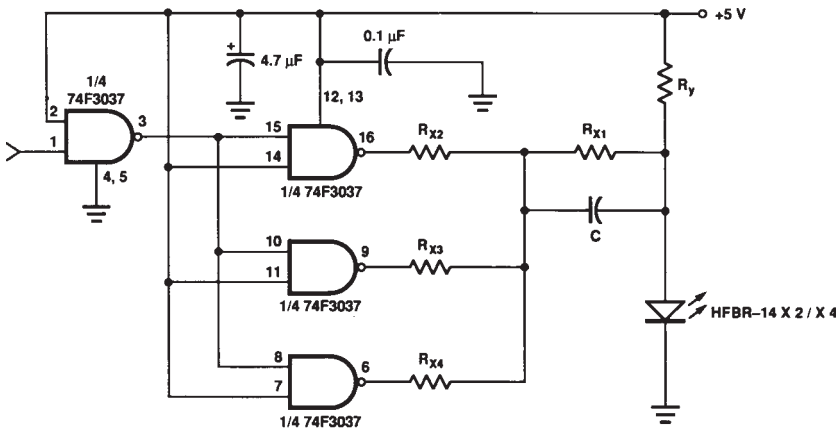

Figure 11. Recommended Drive Circuit.
7. Pre-bias is recommended if signal rate > 10 MBd, see recommended drive circuit in Figure 11.
Figure 11 uses frequency compensation to reduce the typical rise/fall times of the LED and a small pre-bias voltage to minimize propagation delay differences that cause pulse-width distortion. The circuit will typically produce rise/fall times of 3 ns, and a total jitter including pulse-width distortion of less than 1 ns. This circuit is recommended for applications requiring low edge jitter